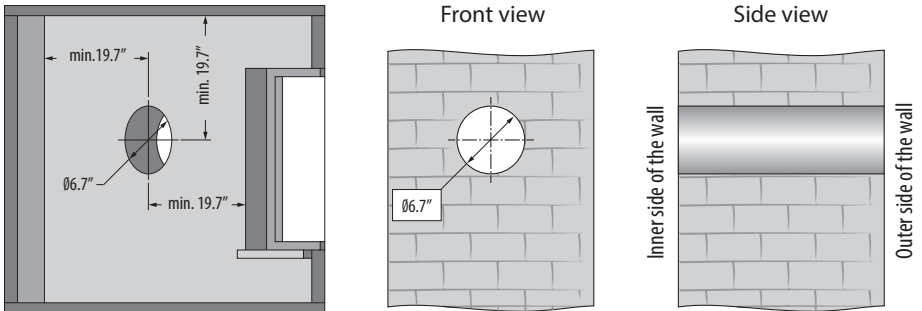

Figure 1
1. Prepare a round through hole in the outer wall. The hole size is shown in Figure 1. While preparing the hole, consider the method of laying the power cable and provide a recess for the cable layout to enable connection of several ventilators in series.